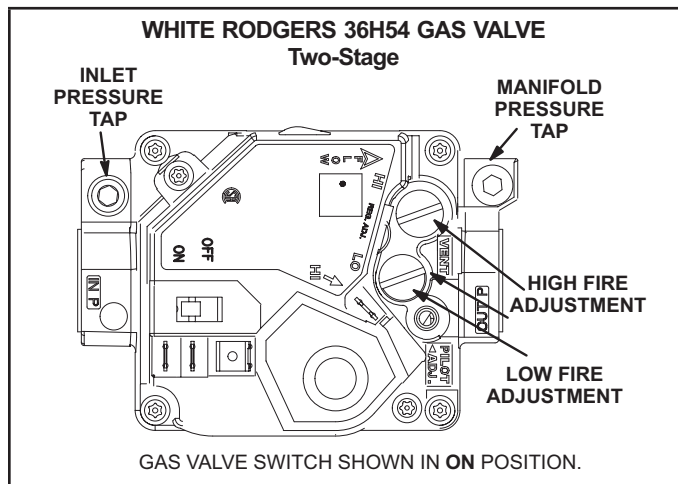
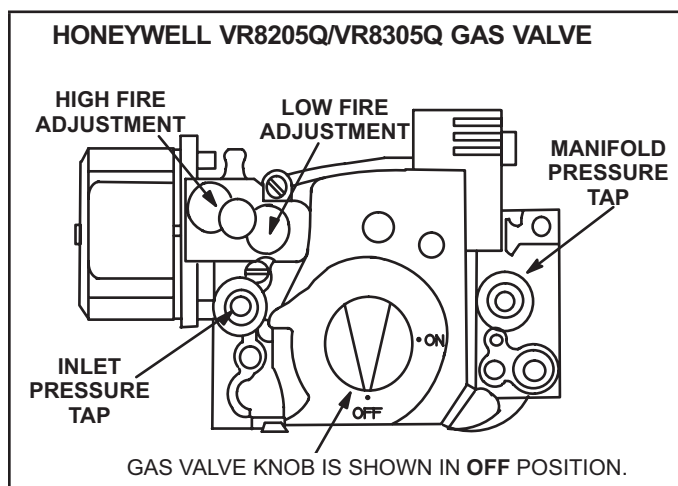

FIGURE 33
FIGURE 34
Gas Valve Operation for Honeywell VR8205Q/VR8305Q and White Rodgers 36H54 (FIGURE 33 and FIGURE 34).
- 5 - Turn gas valve switch to **OFF**. See FIGURE 33. On Honeywell VR8305Q gas valves, turn the knob on the gas valve clockwise to **OFF**. Do not force. See FIGURE 34.
- 6 - Wait five (5) minutes to clear out any gas. If you then smell gas, **STOP!** Immediately call your gas supplier from a neighbor's phone. Follow the gas supplier's instructions. If you do not smell gas, go to the next step.
- 7 - Turn gas valve switch to **ON**. See FIGURE 33. On Honeywell VR8305Q gas valves, turn the knob on the gas valve counterclockwise to **ON**. Do not force. See FIGURE 34.